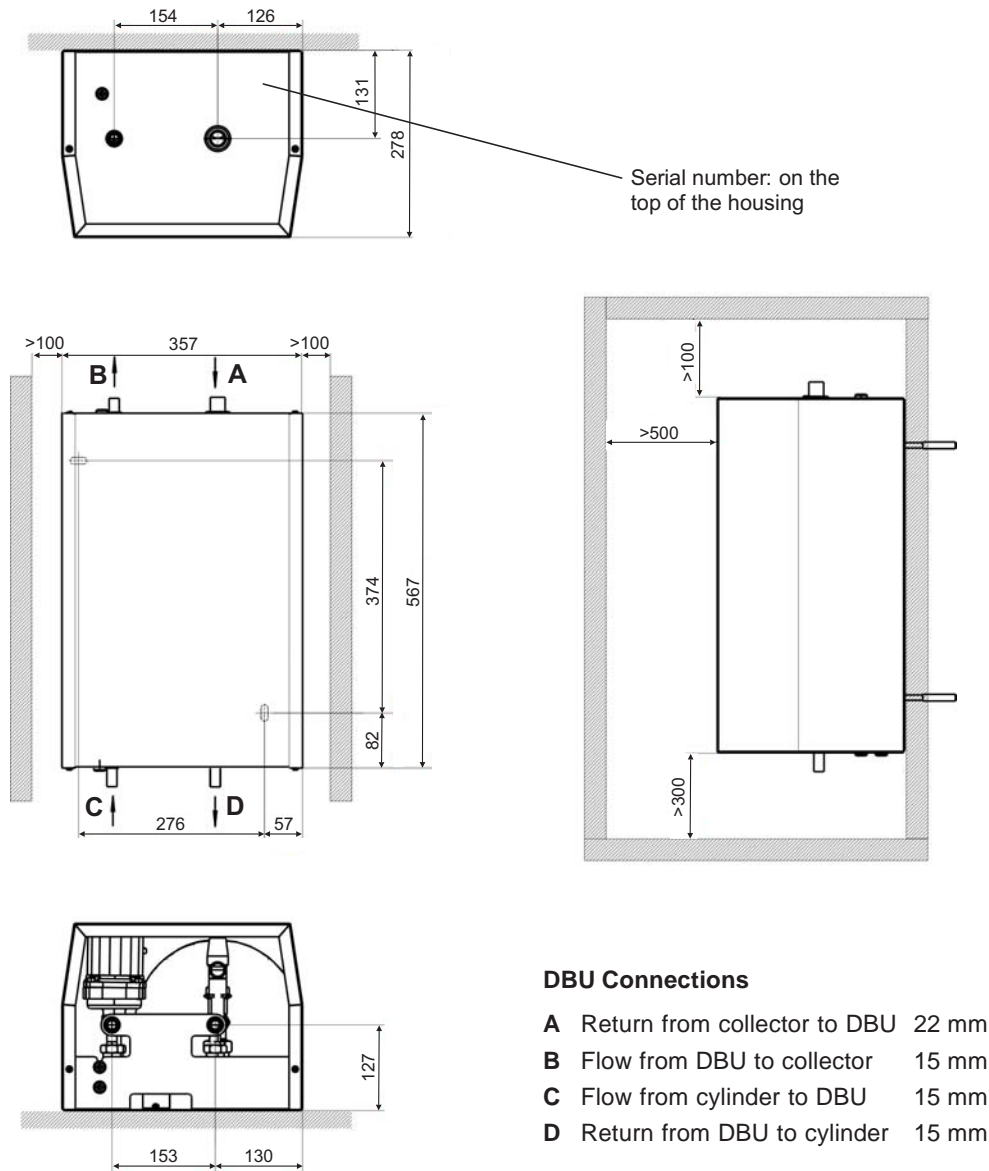

Fig. 6
3.5 DRAIN BACK UNIT (DBU) INFORMATION - Fig. 6
The dimensions of the DBU and clearances required for servicing are shown in Fig. 6.
The connections at the top and bottom of the DBU are shown in Fig. 6.
1. With the help of Fig. 6, decide upon the position of the unit, taking into account the clearances required around the unit.